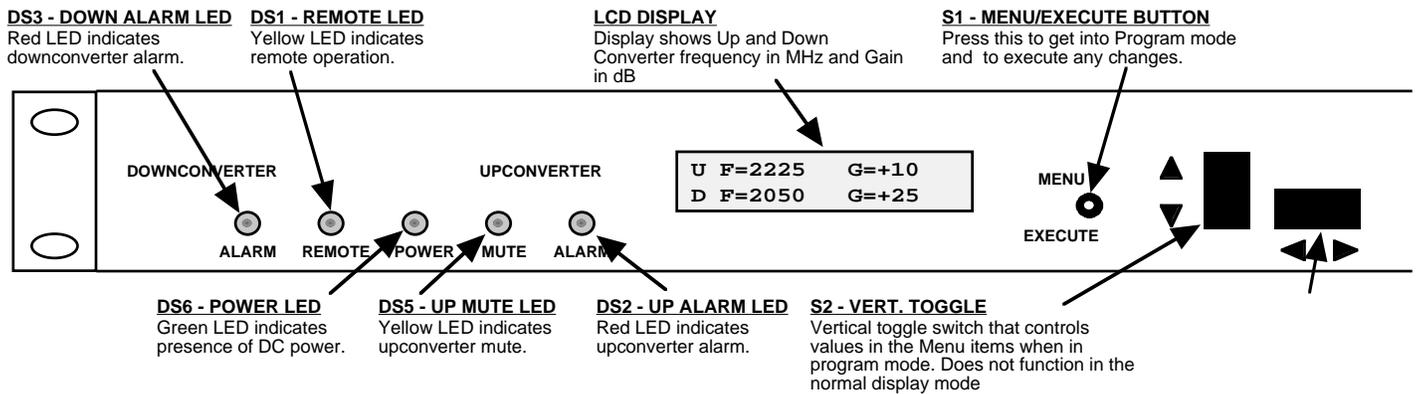

Figure 2.2 Model 2017-25-02 Front Panel Controls and Indicators
- 8.) Be sure DS6 (green, DC Power) is on and DS2 (red, Alarm) is off (Figure 2.2).
- 7.) Be sure DS6 (green, DC Power) is on and DS2 (red, Alarm) is off (Figure 2.2).
Alarm indications appear on the LEDs (see figure 2.2).